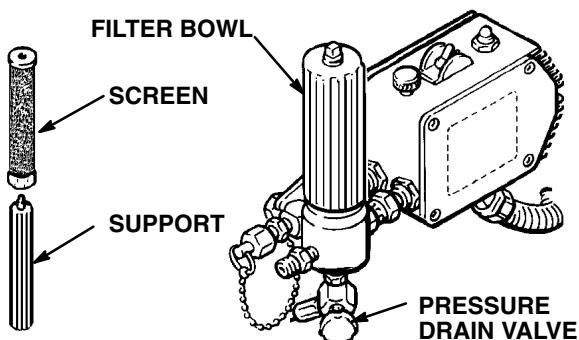

Fig 12-1
2. Remove the filter bowl and screen; see manual 307-273. Clean the screen. Install the bowl (only) to flush it. Close the pressure drain valve. See Fig 12-1.